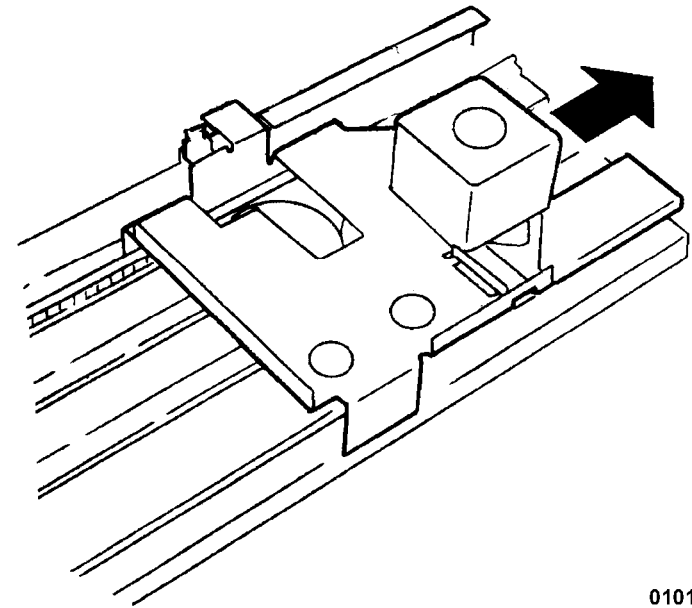

Figure 8 Removing the Carriage Assembly
9. Remove the Carriage Assembly (Figure 8).